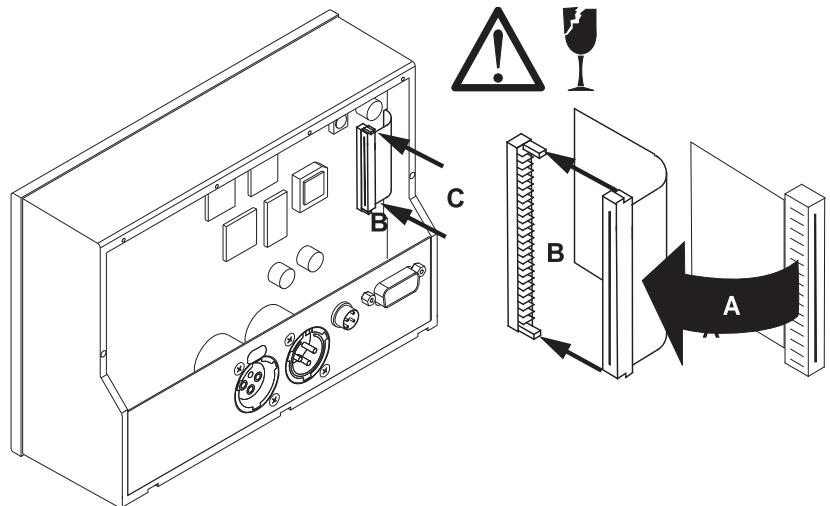

Fig. E 7-11: Fastening the connecting flat cable to the main pcb
11. Bend the connector of the outstanding connecting flat cable with its contacts to the connector on the main pcb (A) and place it exactly between the two guiding pins of the connector (B). Fasten it with slight pressure (C). Take care not to press or damage the flat cable. (Fig. E 7-11)